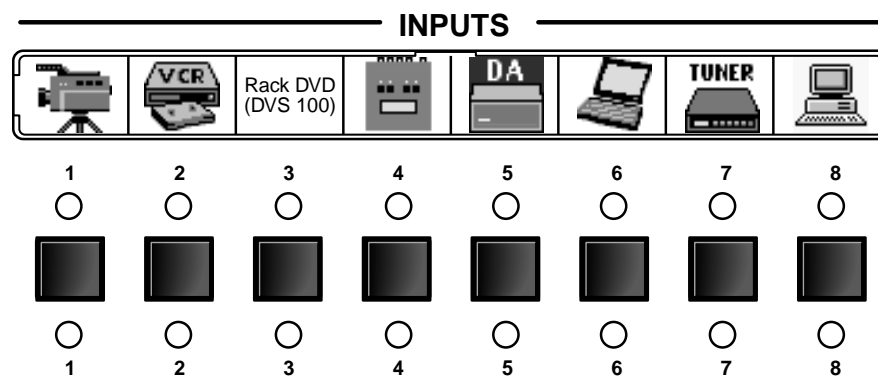

Figure 14. Sample Label
- ③ **Input label panel** — This translucent panel can be removed and replaced to insert a label behind the panel. To remove the panel, insert the Phillips-head end of an Extron tweaker or small Phillips-head screwdriver into the hole in one end of the panel, and gently slide the tab on the edge of the panel out of the recess in the switcher housing.
- Input labels can be created easily with Extron's button label generator software, which is shipped with every Extron Matrix Switcher, or with any Brother® P-Touch™ labeler. Each input can be labeled with names, alphanumeric characters, or even color bitmaps for easy and intuitive input and output selection (see figure 14). See the Button-Label Generator section on page 51 for details on using the label software and the Button Labels section on page 75 for blank labels.